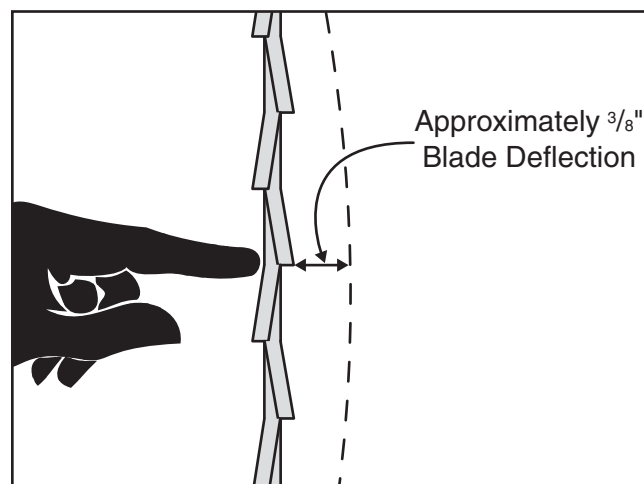

Figure 23. Blade deflection when correctly tensioned.
3. Check the side-to-side deflection of the blade midway between the upper blade guide and the table. The proper amount of deflection should be approximately $\frac{3}{8}$ " when moderate pressure is applied (see **Figure 23**).